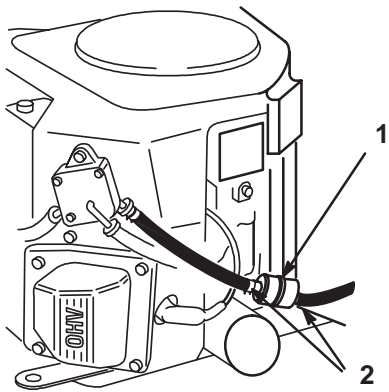

Figure 36
- Squeeze the ends of the hose clamps together and slide them away from the filter (Fig. 36).